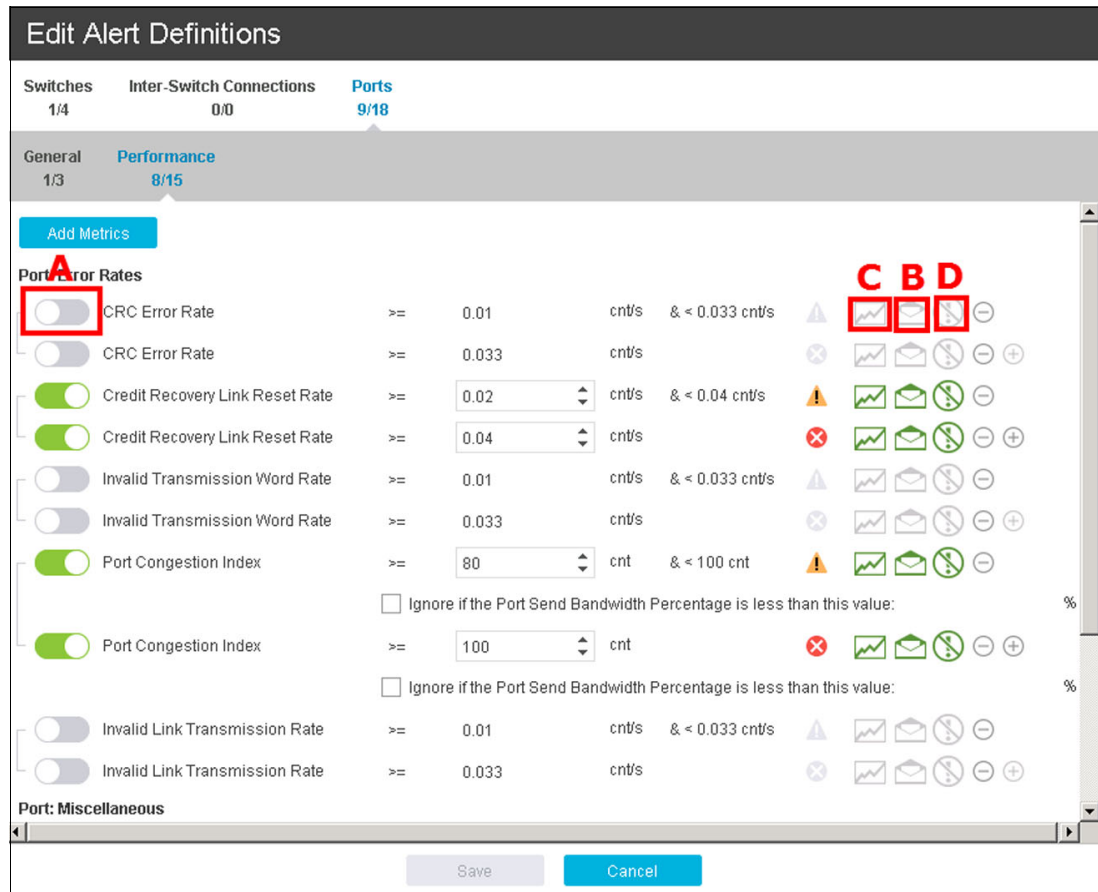
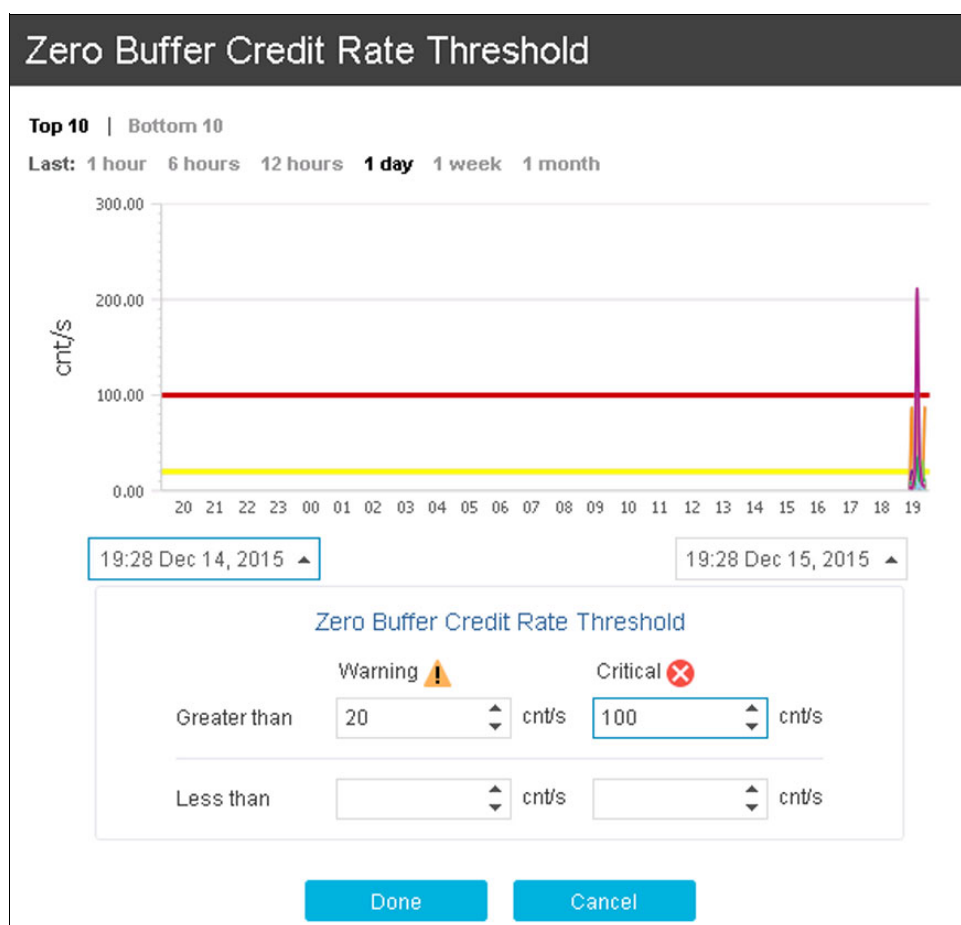
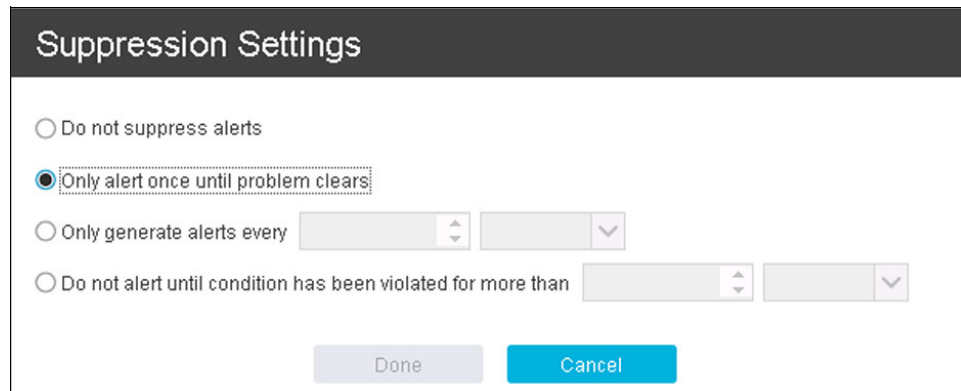

Figure 6-42 Custom alert definitions
Figure 6-43 Editing the custom alerts thresholds
Figure 6-47 Setting alerts suppression conditions
2. Modify (enable or disable) the wanted alert by switching the green switch A (see Figure 6-42) on or off.
3. If the alert was enabled, configure the threshold values by which this alert will be triggered. Click the C button (see Figure 6-42 on page 179) and the alert threshold configuration pane will be presented, as shown in Figure 6-43.
1. While editing the alerts definitions, click the **B** button (see Figure 6-42 on page 179) and the alert notification settings for that particular alert and switch will be presented, as shown in Figure 6-46.
1. While editing the alerts definitions, click the **D** button (see Figure 6-42 on page 179) and the alert custom suppression settings for that particular alert and switch will be presented, as shown in Figure 6-47.